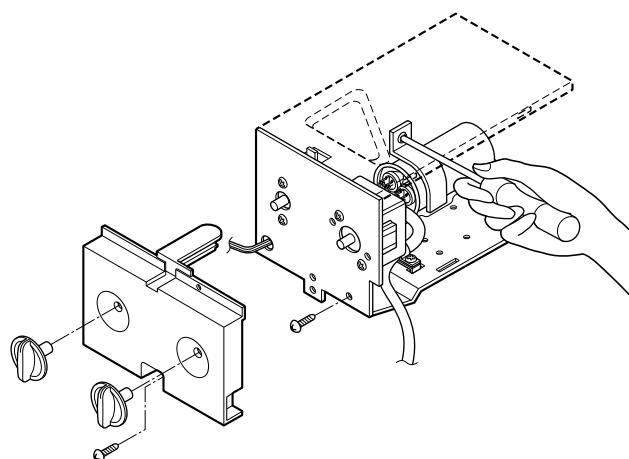

Figure 9
7. Re-install the components by referring to the removal procedure, above. (See Figure 9)